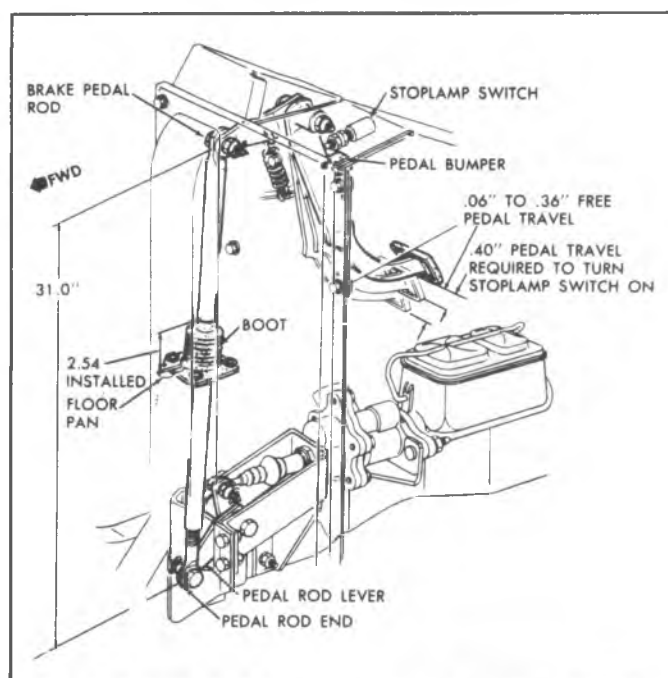

Fig. 5-13--Brake Pedal and Stop Lamp Adjustment P30(32) Model
Replacement (Fig. 5-13)
11. Fasten the boot to the floorpan and compress the boot to 2.54" (65 mm) installed height; tighten the boot to 2.54" (65 mm) install height; tighten the boot screws to 13-18 lb. in. (1.5 - 2.0 N·m). (Refer to Figure 5-13).